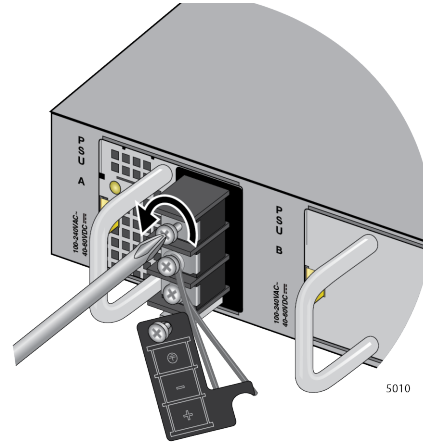

Figure 50. Loosening the Screw for the Negative (+)
5. Loosen the top screw for the positive (+) with a Phillips-head screwdriver. Refer to Figure 50 on page 96.